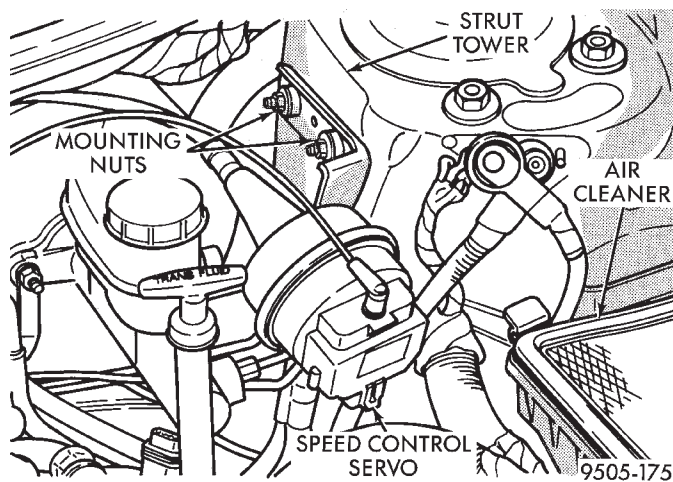

Fig. 108 Speed Control Servo Attachment To Strut Tower
(7) If equipped, remove the vehicle's wiring harness connector from the speed control servo. Remove the 2 speed control servo mounting bracket to strut tower attaching nuts (Fig. 108). Without removing speed control cable from servo, move speed control servo out of the way.
(12) If equipped, install speed control servo on the mounting studs in the left strut tower (Fig. 108). Install the 2 speed control servo bracket mounting nuts (Fig. 108). Tighten the 2 mounting nuts to a torque of 6 N·m (55 in. lbs.). Install electrical connector on speed control servo.